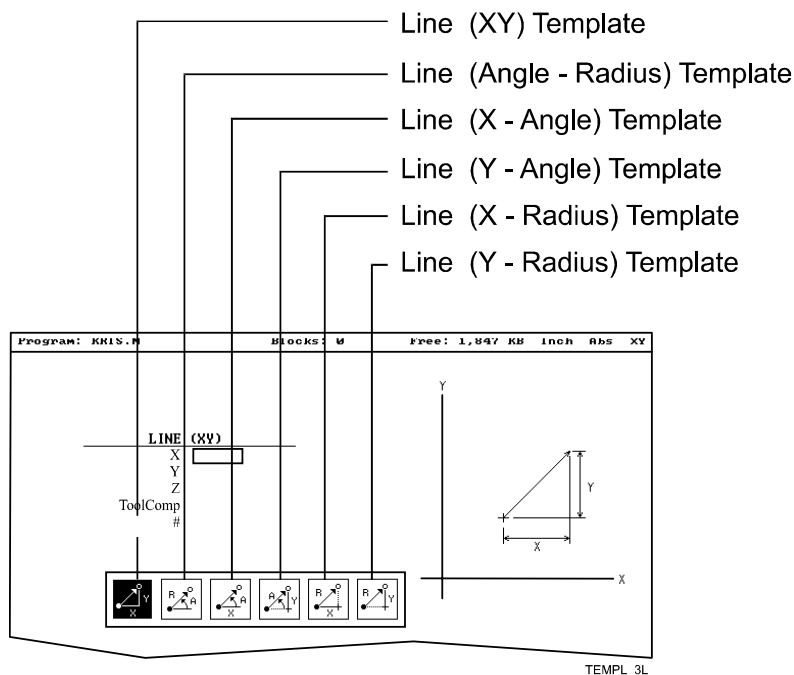

Figure 3-10, Rapid/Line Template Pop-up Menu
2. Press **More. . . (F4)** to display the Template pop-up menu. Refer to **Figure 3-10**.